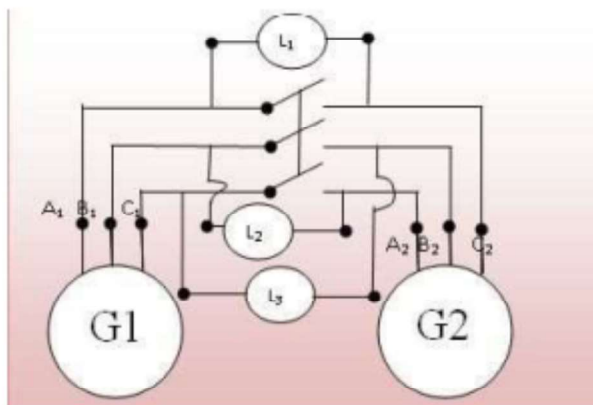
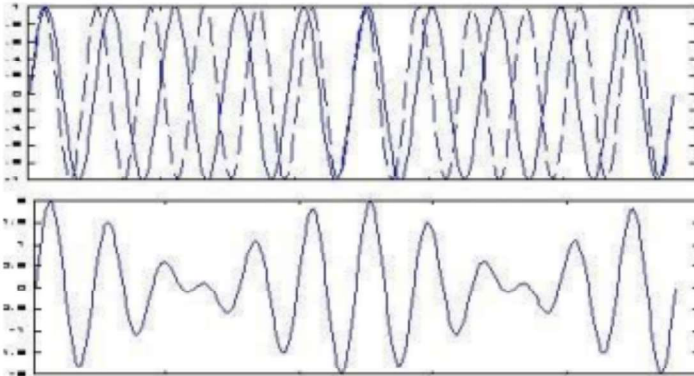

Fig. 1 Synchronization using three lamp method
Fig. 2 Waveforms when two systems operating at different frequencies
Let machine G2 be synchronized with machine G1 which is already connected with the bus bar, using three lamps (L1, L2 and L3) method. These lamps are known as synchronizing lamps connected as shown in Fig.1 If the speed of machine 2 is not brought up to that of machine 1 then its frequency will also be different, hence there will be a phase difference between their voltages as shown in Fig.2. Due to difference in frequencies the resultant voltage will undergo changes similar to the frequency changes of beats produced when two sound sources of nearly equal frequencies are sounded together.
1. Connect the circuit as Per Fig.1.